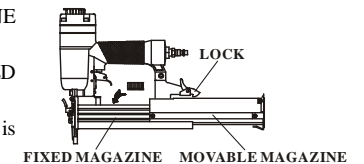

Figure 3
1. Depress the LOCK (63) to release the MOVABLE MAGAZINE (58) and pull the magazine out fully as shown in Figure 3.
2. Place a full clip of the specified type and size fasteners on the FIXED MAGAZINE (54), 100 fasteners may be loaded in the magazine.